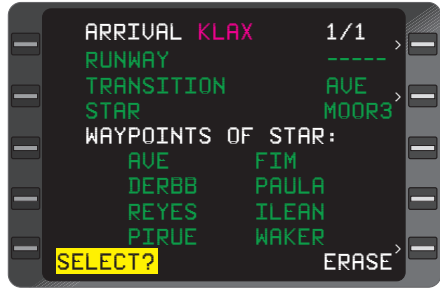

Figure 3-47
11. Arrival **STAR** Waypoints - REVIEW (Figure 3-47), then DEPRESS **ENT** Key to insert **STAR** into Active Flight Plan and return to the **ACTIVE FLIGHT PLAN** Page.